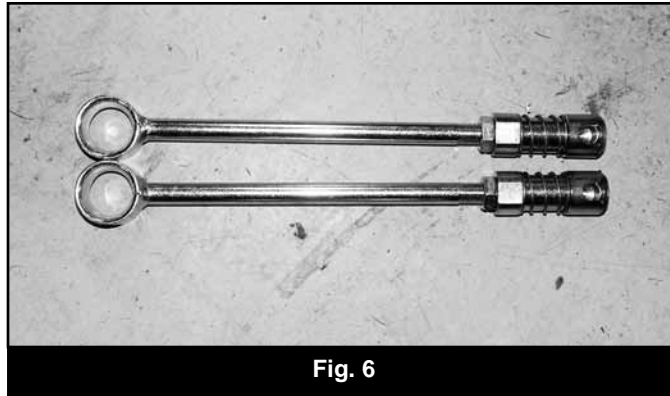

Fig. 6
32. Install the provided $\frac{1}{2}$ " jam nut then the spring loaded disconnect assembly on the threaded end of the new link. Thread the nut and assembly all the way on to the link (Fig 6).